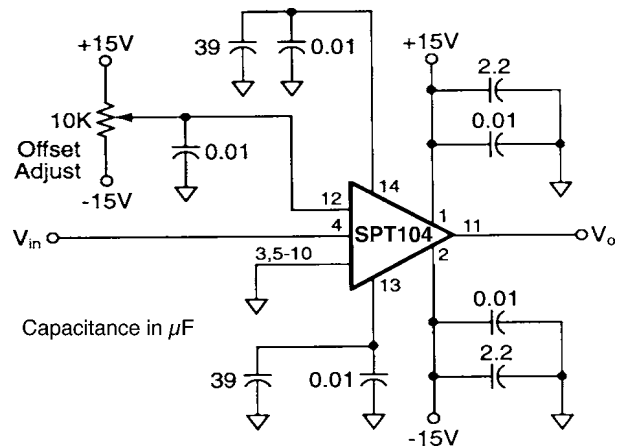

Figure 1: Basic Circuit
DC offset of the SPT104 may be adjusted by applying a DC voltage to the amplifier's offset adjust pin (12). The simplest method is shown in Figure 1. Using this method of offset adjust it is possible to vary the output offset by approximately  $\pm 400\text{mV}$ . This simple adjustment has no effect on the offset drift characteristics of the SPT104.